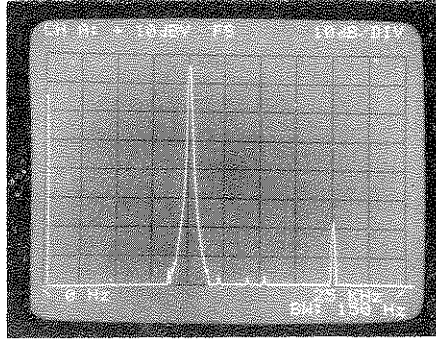

Figure 3-8. Sine Wave Spectrum using the HANNING Passband.
e. Now set the HANNING passband button to ON. The spectrum should appear as in Figure 3-8.